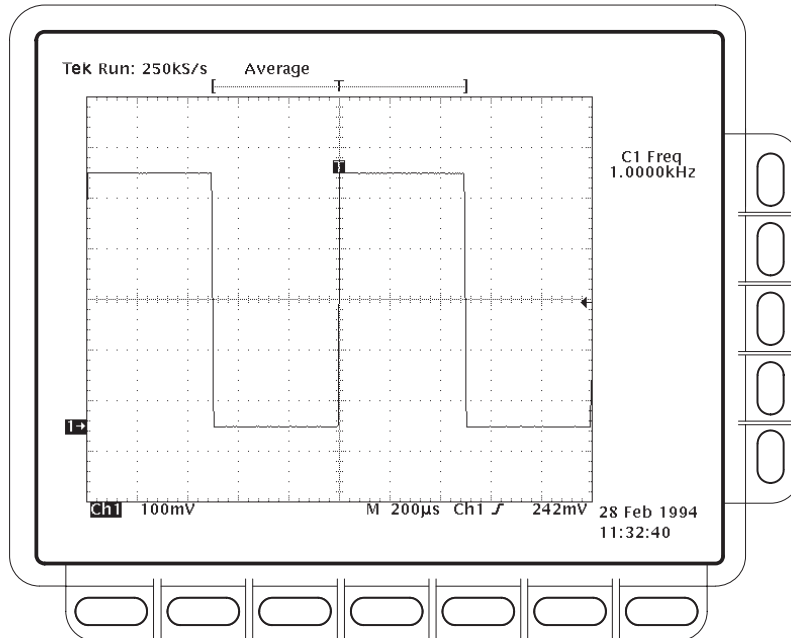

Figure 4–22: Measurement of probe compensator frequency
- CHECK that the **CH 1 Freq** readout is within 950 Hz to 1.050 kHz, inclusive. See Figure 4–22.